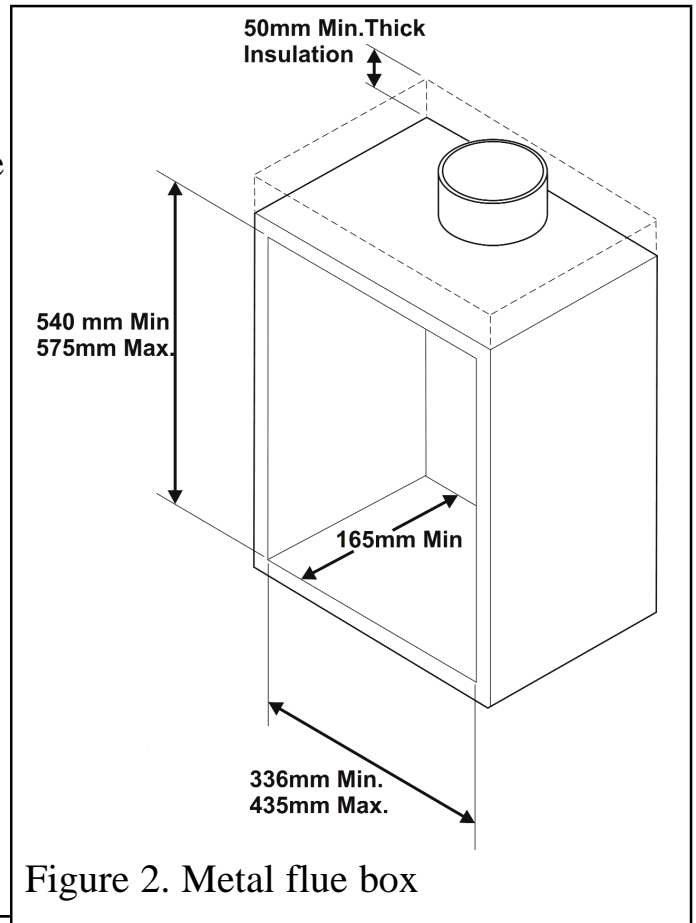

Figure 2. Metal flue box
3.2.2 To a fireplace incorporating a metal flue box conforming to BS715 with a minimum internal depth of 165mm. Incombustible mineral wool insulation of not less than 50mm thickness must be applied to the top surface of the firebox (See figure 2) and it must stand on a non-combustible hearth (See figure 1).
The whole of the top surface of the metal flue box must be covered with a minimum 50mm layer of mineral wool or equivalent insulation (See figure 2).